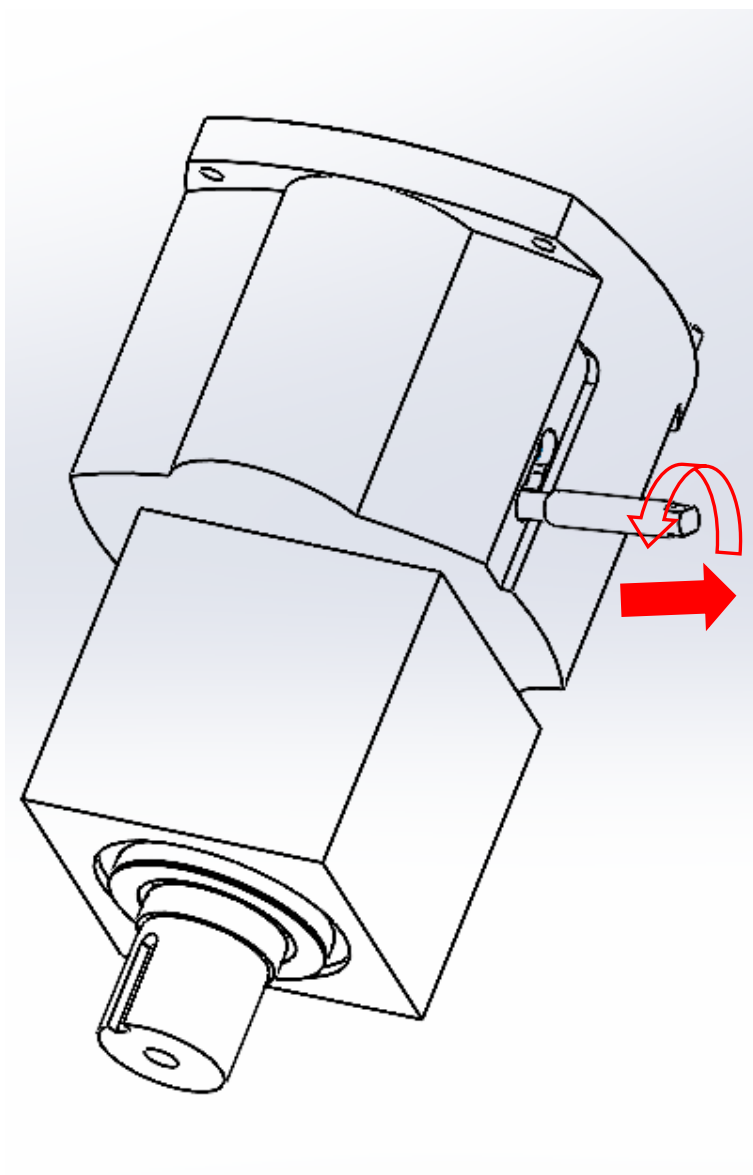

Figure 2.20
2.7.3 Unscrew and remove the outer gear lever as in figure 2.20;